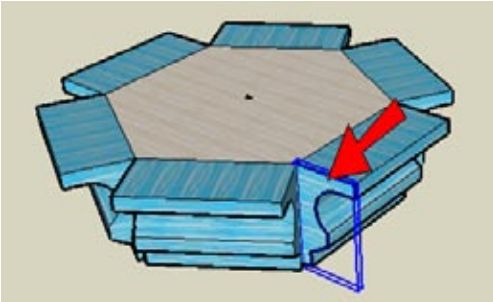

Figure 4-26
5. Activate Select and double-click one of the vertical end faces of the pulled rounding faces. This selects both the face and its surrounding edges. Right-click on the face and choose Make Group. The face will then appear with bold edges and surrounded by a bounding box (Figure 4-26).